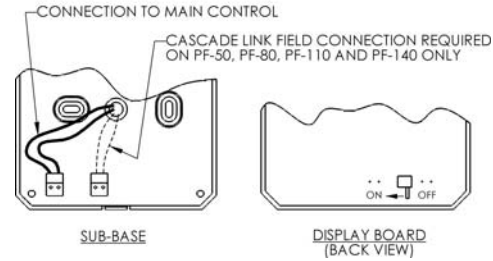

Figure 8.6: Cascade Link Connection & Switch Setting
- Remove the User Interface Display from the boiler by pressing the tab on bottom edge and rotating it outward and upward as shown in Figure 8.6.
- Slide the Master Switch Lever toward the center of the printed circuit board. The Master Switch Lever is not marked with “ON” or “OFF” but the switch is in the “ON” position when it is moved to the left as viewed from the back of the display. This position is shown in Figure 8.6.
To cascade PF-50 and PF-80 models, check that the display sub-base has the cascade link as illustrated in Figure 8.6.